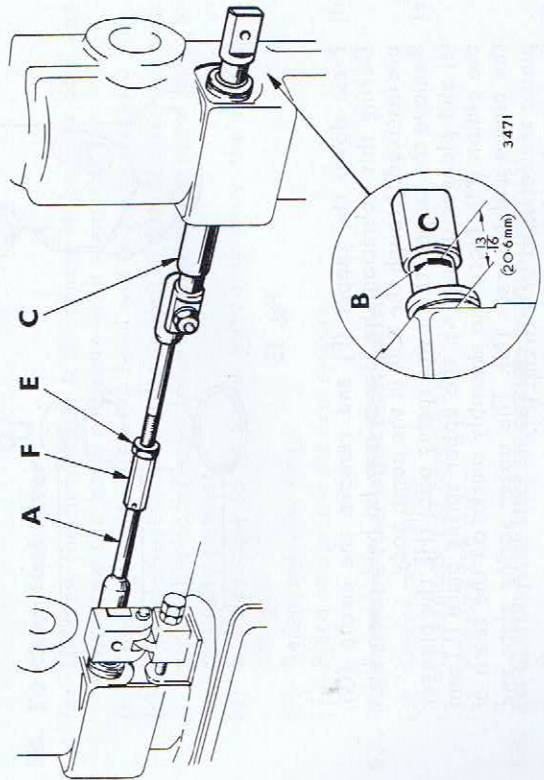

Fig. 16
- (h) The link (A) connecting the pumps should be adjusted by slackening the locknut (E) and rotating the adjuster (F) until the pump racks are in the fully open position together. Check that the calibration marks (B) on the racks (C) are an equal distance from the spot face on the pumps. This is important, as faulty setting will result in cylinders receiving unequal fuel.
61. To time fuel injection pump (Fig. 16 & 17)
- (a) Be sure that the overload stop adjusting screw is against the overload stop. On engines without overload stops, secure the fuel pump rack with the calibration mark (B) $\frac{1}{8}$ in (20.6mm) from the spot face on the rack boss, NOT the rack bush.
- (d) Loosen the fuel pump rocker pinch bolt (J) and unscrew the adjusting screw (K) until the pump is at the bottom of its stroke. Allow the fuel to flow from the pump. If a fuel feed pump is fitted fuel will not flow unless the feed pump lever is operated.
- (e) Turn the flywheel until the appropriate timing mark preceding the TDC mark on the flywheel is opposite the pointer (H). For timing figures see Technical Data.